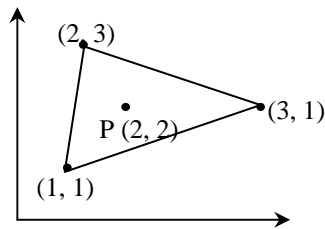

Fig. 3
- b) For the triangular element shown in fig.3, obtain the shape functions at point P (2, 2) within the element.